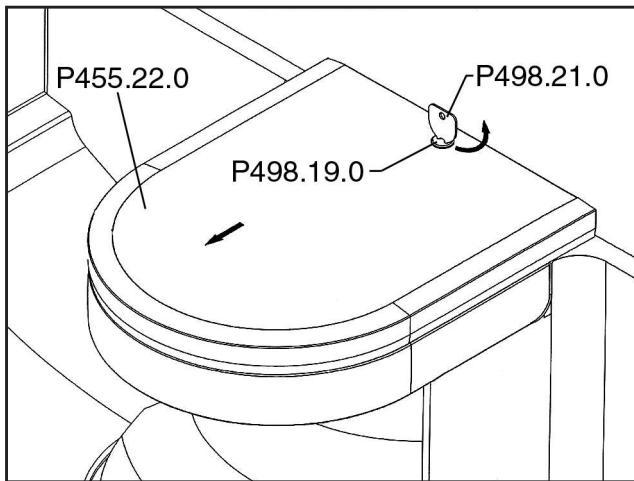

Figure 1
- C) Pull the cover forward while gently lifting the back of the lid (figure 1).
- STEP 11. MOUNT THE COVER ON THE HEAD (figure 1).**